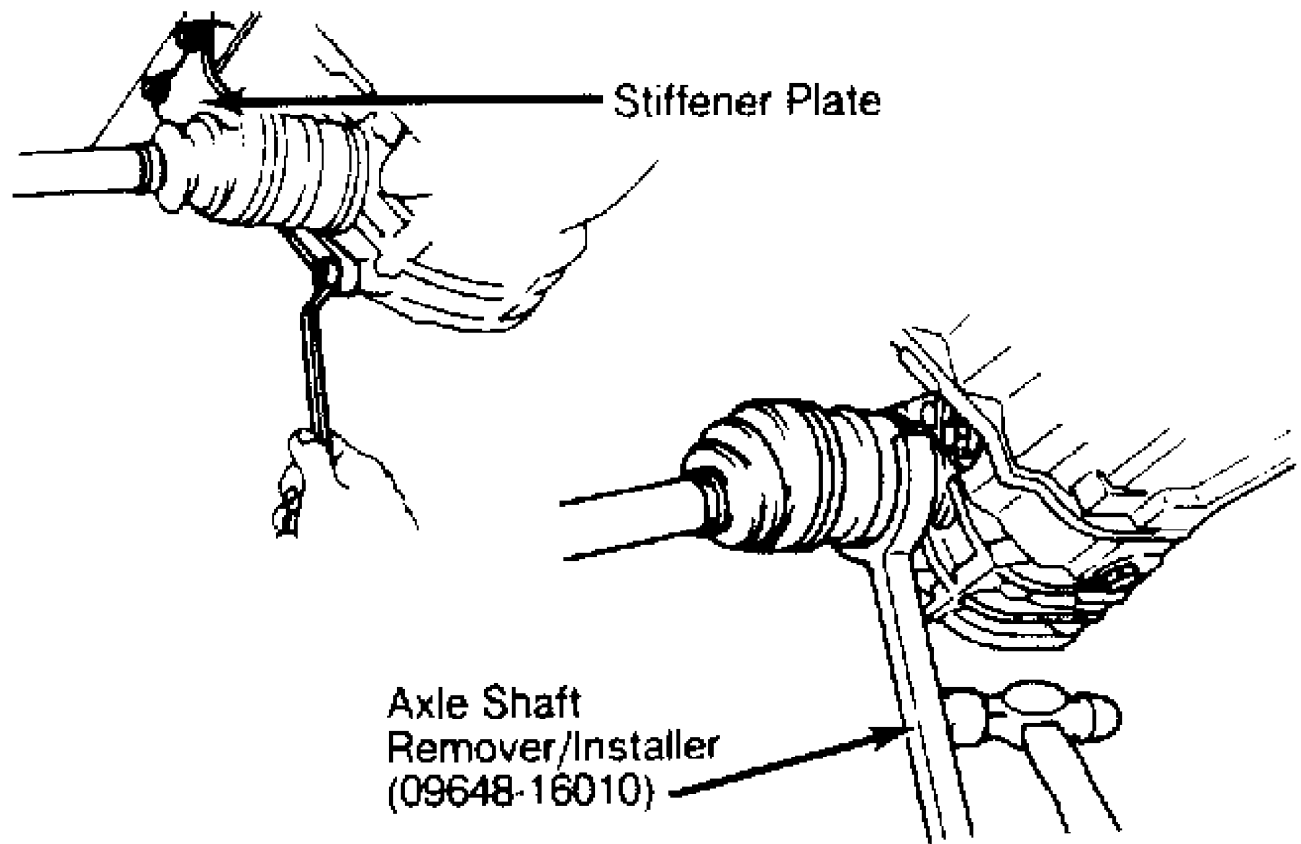

Fig. 8: Removing Tercel Wagon Drive Axle Shaft
6) On Tercel Wagon, remove the stiffener plate on the transaxle assembly (left side). Using Axle Shaft Remover/Installer (09648-16010) and hammer, tap axle shaft out of transaxle. See Fig. 8.